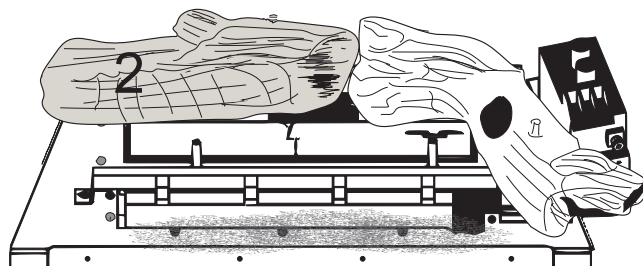

Figure 6.3 - Log #2 Placement
3. Hold log #2 with the flat surface away from you. Place log #2 toward the back to the left by positioning the pin locator hole on the bottom of the log over the pin on the left-hand side and push back against the rear bend on the sheet metal of the burner assembly. See Figure 6.3.